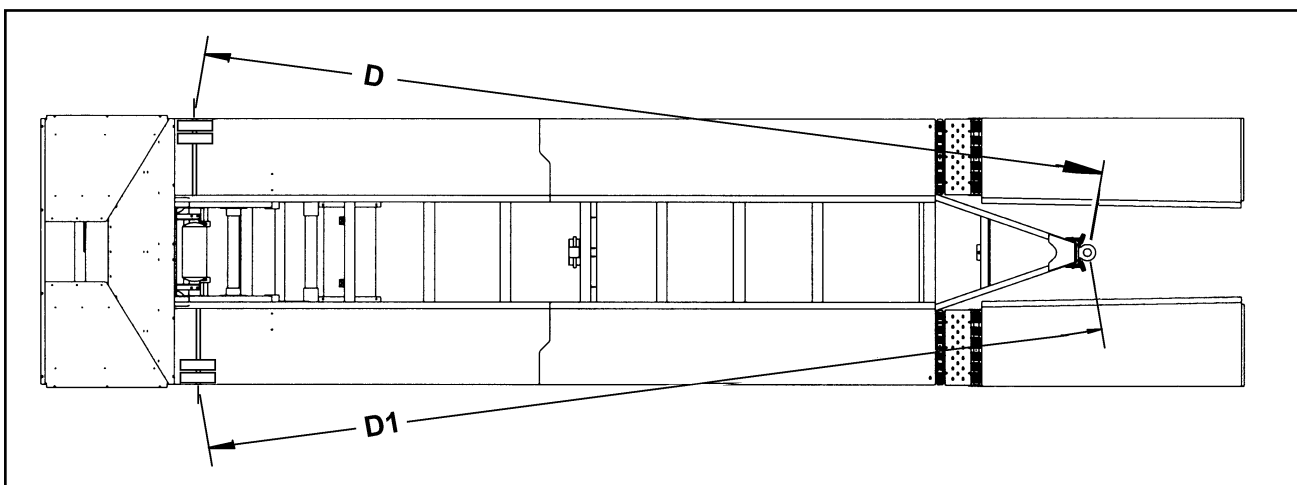

Figure 4-9 Checking Axle Alignment
4. Measure (D) from the plumb bob to the center point on one end of the axle. Record this measurement (See Figure 4-9).
5. Measure (D1) to the other end of the axle in the same manner as in Step 4.. Record this measurement (See Figure 4-9).